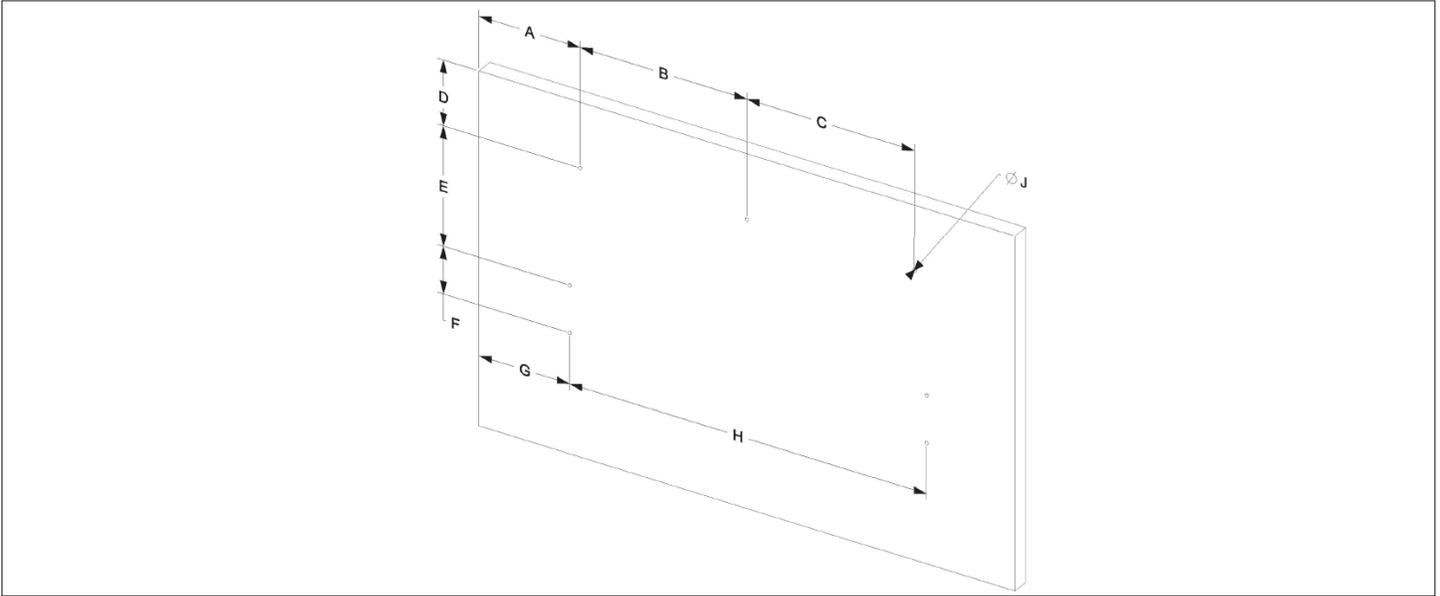

Figure 2-10 Location of the Expansion Bolt Holes
Step 1: Figure 2-10 illustrates the drill holes of dimension $\varnothing 10$ mm for expansion bolts and their locations for SRC03GES, SRC07GES, SRC07GET, and SRC11GET models.